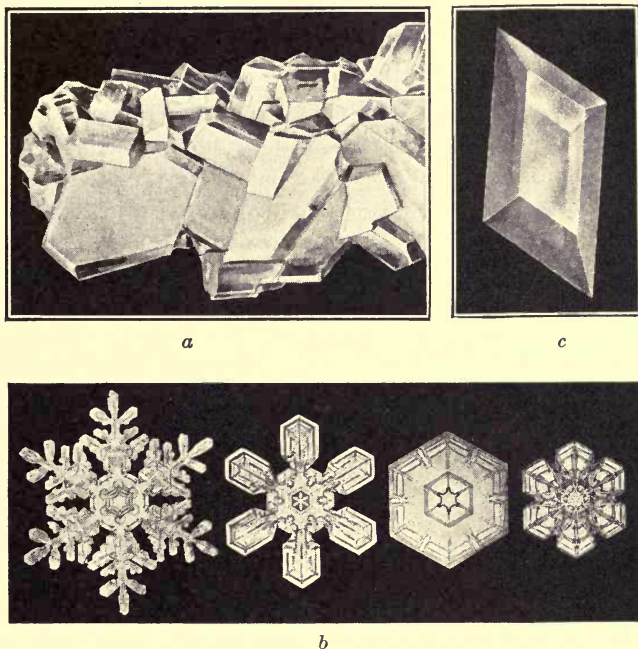

FIG. 11.—Crystals. *a*, rock candy; *b*, snow; *c*, washing soda.
At the first opportunity, examine some rock candy. You will find that the pieces of sugar have a definite shape, and that each resembles its neighbor (Fig. 11, *a*).
You may have noticed the regularity of form of snow and frost crystals (Fig. 11, *b*). If you have not, at the next snowfall, catch a few flakes of snow on a black cloth and
**Water of crystallization.** Occasionally, crystals in forming from solution combine with water. Common washing soda is an example of this (Fig. 11, *c*). If you place a dry crystal of washing soda in a test tube and heat it, a large amount of water is given off, and a white powder remains in the bottom of the test tube. In this particular case, 106 pounds of washing soda will combine with 180 pounds of water, to form 286 pounds of crystalline washing soda. That is, more than half of the crystal is water. This water which is not mechanically mixed with, but chemically combined with, the washing soda, is called *water of crystallization*.